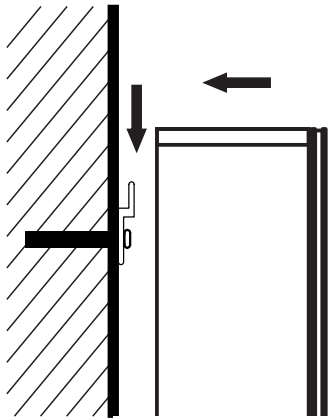
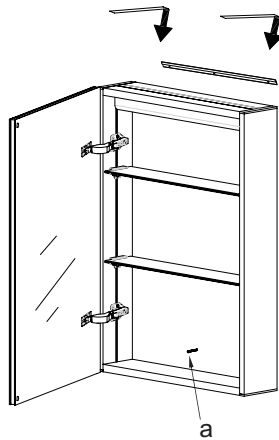
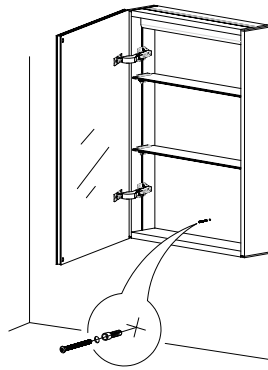

Fig. 3
Fig. 4
Fig. 6
- 2.1 Attach the mirror cabinet to the bar as shown in Fig. 3, open the cabinet door, and mark on the wall with a pencil (Fig. 4) through the backplane hole (a).
- 2.3 Repeat the operation as shown in (Fig. 3) and then tighten the screws on the backplane.(Fig. 6)